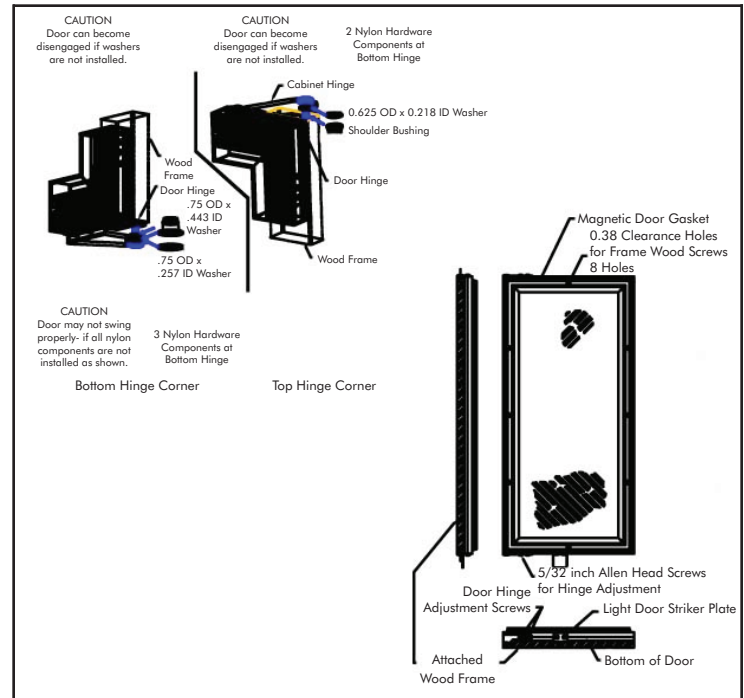

Figure 7: Hinge Hardware Installation Details
8. Install the door to the unit. Use the supplied plastic washers as shown in Figure 7.
9. Realigning the door may be necessary. Any final door adjustments can be made using a 1/8 inch Allen head driver to adjust the door's hinges (see Figure 7).
6. Install the door to the unit. Use the supplied plastic washers as shown in Figure 7.
7. Realigning the door may be necessary. Any final door adjustments can be made using a 5/32 inch Allen head driver to adjust the door's hinges (see Figure 7).